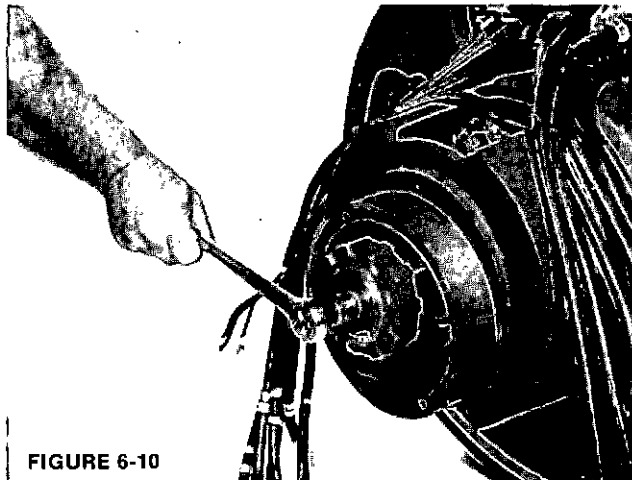

FIGURE 6-10
1. The PMG rotor is mounted to the generator shaft using a stub shaft extension. Remove the center cap screw and pull the assembly off of its locating pin. (See Figure 6-10 and 6-11.)